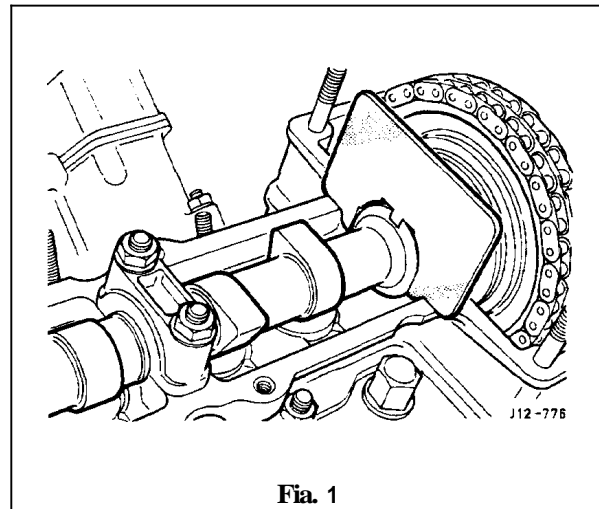

Fig. 1
- Engage the camshaft sprocket (1 Fig. 1) to the camshaft.